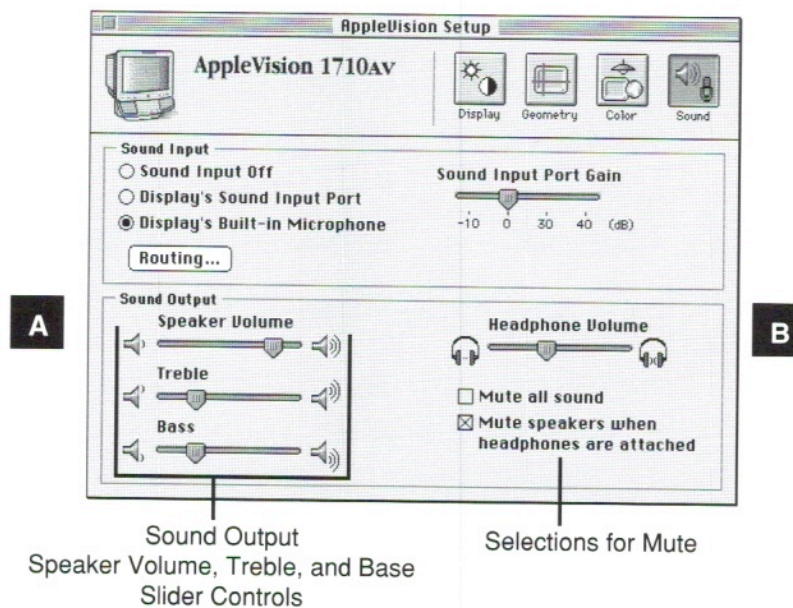

Figure 33. AudioVision Setup Sound
1. Drag the Speaker Volume slider (see Figure 33) to adjust speaker volume.
3. If desired, adjust headphone volume by dragging the slider control (see Figure 33) to the right to increase volume, or to the left to decrease volume.